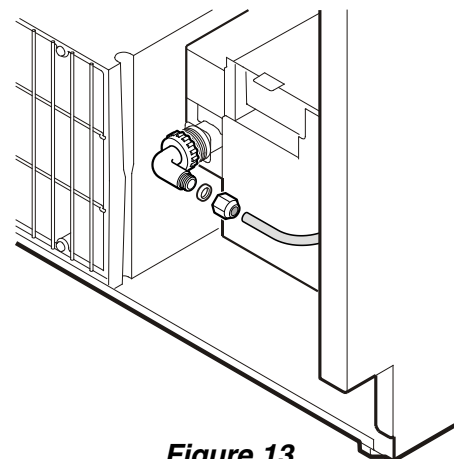

Figure 13
7. The water line is visible at the front of the appliance. Screw the OD adapter onto the solenoid valve and connect the water line with the adapter (**Figure 13**).